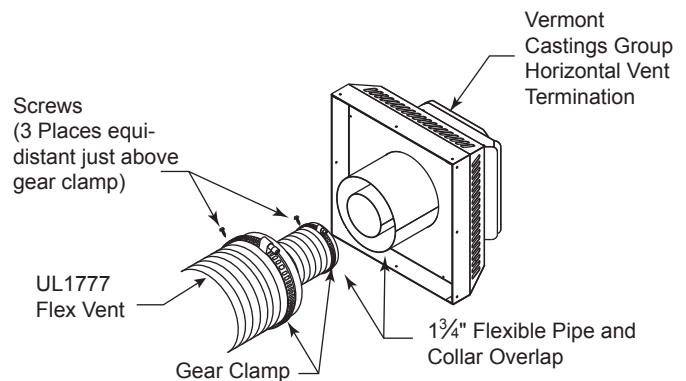

Figure 40 - Typical Horizontal Flex Vent Installation
1. Connect the 5" flexible vent to the horizontal termination as in *Figure 40*.
2. Connect the 8" flexible vent to the termination ring as in *Figure 40*.
3. Review *Figure 40* for proper overlap and clamp placement.
5. Use only listed and approved terminations and accessories, installed per the termination instructions and *Figure 40*.